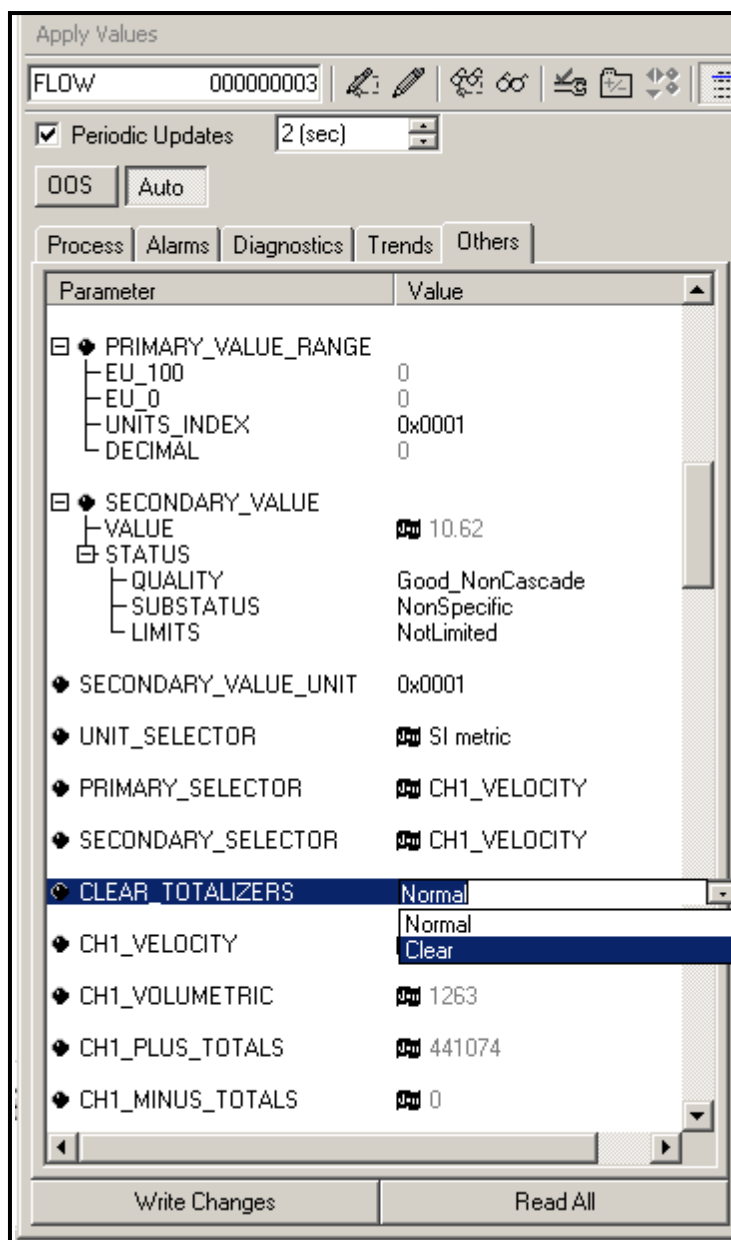

Figure 61: Clear Totalizers Drop Down List
3. Select **Clear** from the drop down list box (see Figure 61).